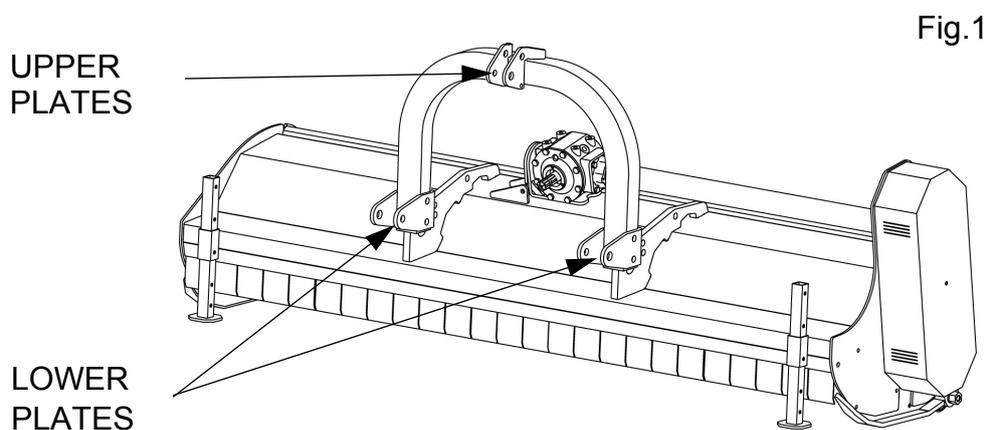

Fig.1
- Working inclination of PTO shaft must not exceed 25° (see fig.1). Greater working angles will damage the PTO and serious personal injury could occur as well.
- Connect the two drawbar of the tractor to the lower plates of the mower by using two pins and two hair pins to lock the pins in place (fig. 1).
- Connect the 3rd point of the tractor to the high plates of the mower by using a pin and an hair pin (fig. 1).
If your mower is equipped with a rear roller, the adjustment is carried out by regulating the two roller support plates as follows (fig. 1):